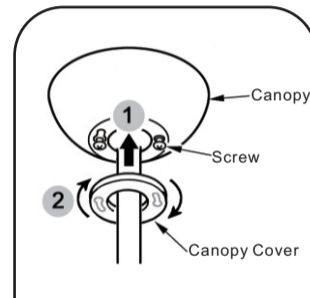

Fig.19
Step 4. Twist the canopy cover to fit it on canopy. (Fig.19)